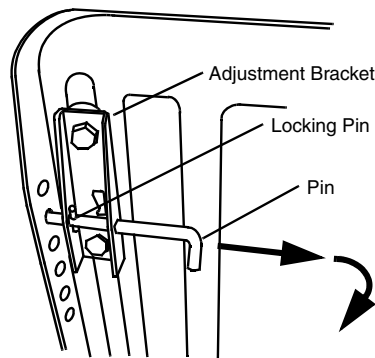

FIG. 12
- Pull pin and rotate pin to the locked position. (See FIG. 12)